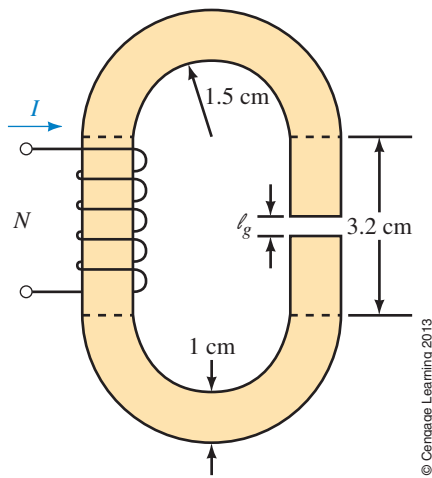

FIGURE 12-49
19. The cast iron core of Figure 12-49 measures $1 \text{ cm} \times 1.5 \text{ cm}$, $l_g = 0.3 \text{ mm}$, the air-gap flux density is 0.426 T, and $N = 600$ turns. The end pieces are half circles. Taking into account fringing, find current I .